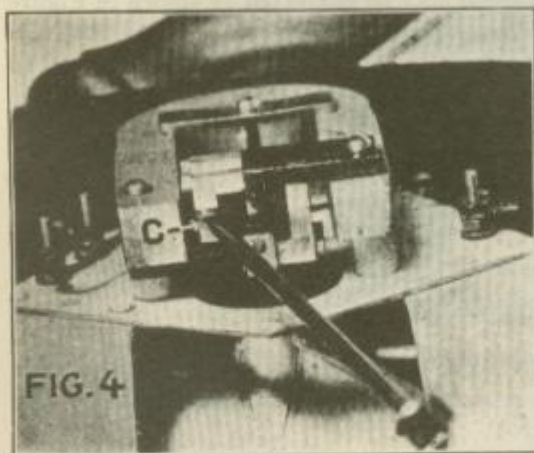

FIG. 4
To readjust the armature it will be first necessary to free it. Figures 4 and 5 show the method of doing this. The screws shown as "C" should be backed off about two turns. Do not remove them entirely.
After the spacer tools have been inserted, one at each end, the two screws "C" that were loosened (Figures 4 and 5) should be tightened firmly. Figure 8 shows the method of tightening the upper screw with the spacers in place.
10. Remove the two armature screws "C", Figures 4 and 5.
4. Replace the armature screws *"C"*, Figures 4 and 5, but do not seat them firmly.